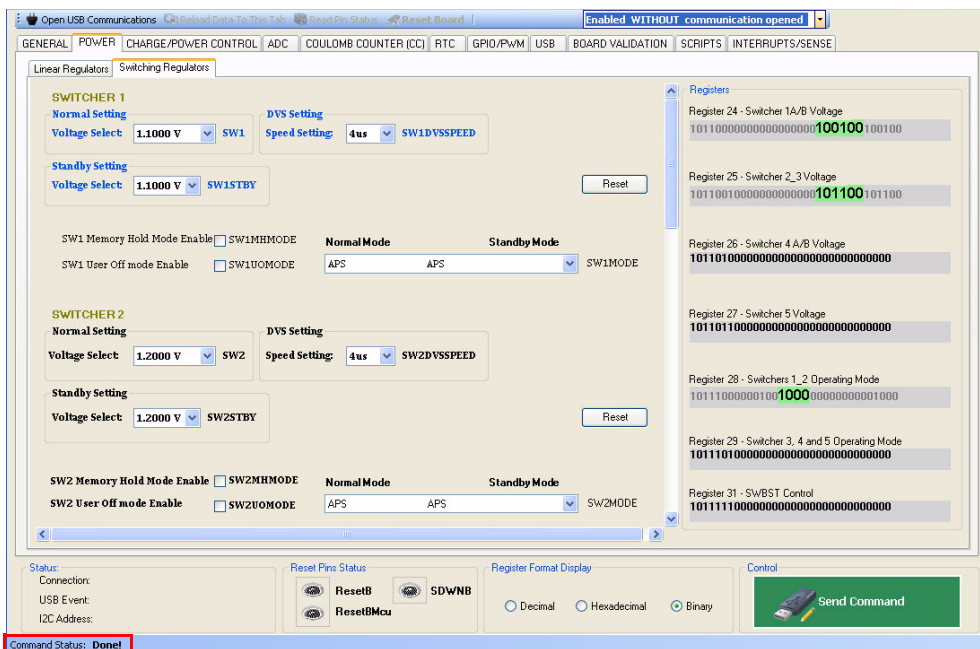

Figure 20. Command Delivery/Validation
- When the command has been sent, the **Command Status** bar will display **Done!**, as shown in Figure 20. At this point, the next command can be assembled.